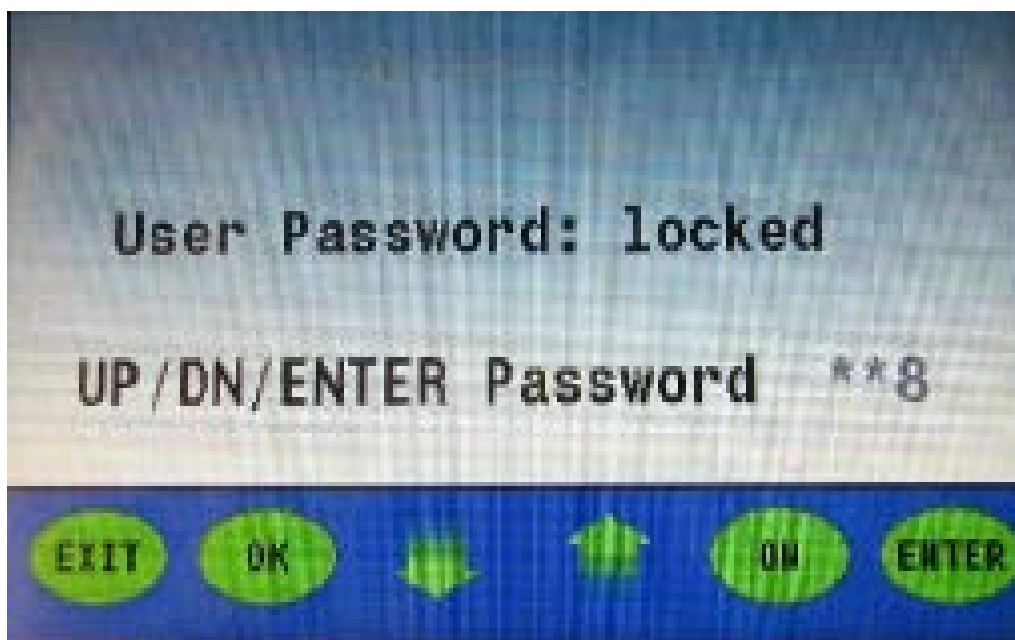

Figure 13
4. Press the **enter button**; a (*) is inputted into the field for the second number. Now, the third digit, the last digit in the password sequence, will begin to blink (**figure 13**).